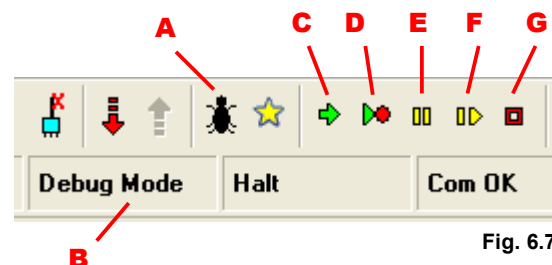

Fig. 6.7
During the development of the Program, if the Controller is connected, click on the “*Debug*” button (Fig.6.7-A) to activate the “Debug” modality.
In the Status bar the message “*Debug Mode*” (Fig.6.7-B) will be visualized and in the Tool bar will be activated the commands to execute the following debug operations:
- “*Run*” (Fig.6.7-C) – Executes the Program continuously.
- “*Run To Break*” (Fig.6.7-D) – Executes the Program up to the Break point .
- “*Pause*” (Fig.6.7-E) – Interrupts the execution of the Program (“Run” condition) / executes the Program step by step (“Stop” condition)
- “*Animate*” (Fig.6.7-F) – Simulates the evolution of the Program flow executing it step by step.
- “*Stop*” (Fig.6.7-G) – Blocks the Program and reset it to the first Function Block.